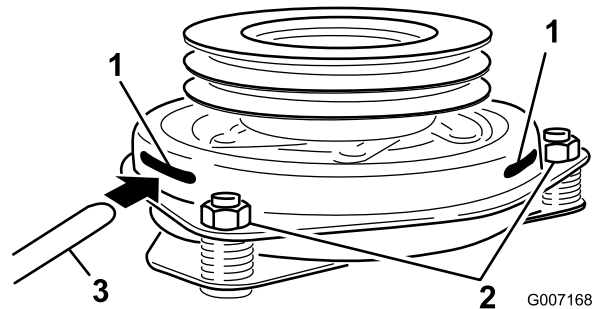

Figure 60
9. Insert a 0.015–0.021 inch (0.381–0.533 mm) feeler gauge through one inspection slot in the side of the assembly. Make sure it is between the armature and the rotor friction surfaces (Figure 60).
10. Tighten the lock nuts until there is slight binding on the feeler gauge but it can be moved easily within the air gap (Figure 60).